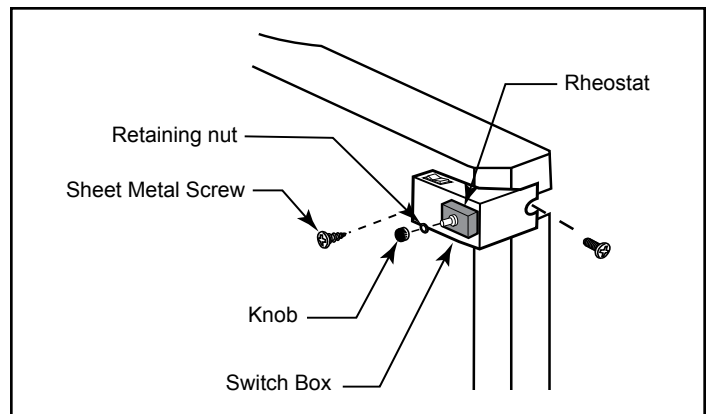
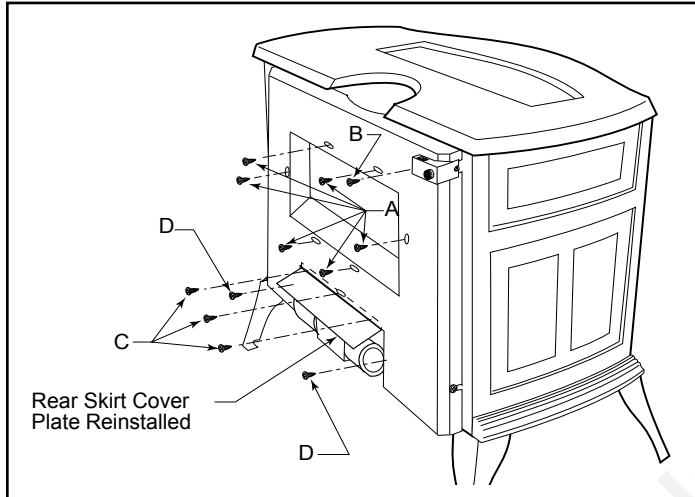

Figure 16 - Attach rheostat retaining nut and knob. Attach switch box to rear skirt with sheet metal screw.
Figure 17 - Replace rear skirt, coverplate and switch box.
6. Bring the rheostat cord to the inside of the stove; pass the cord through the slot at the edge of the rear skirt, where the on/off switch passes through. Lift the rear skirt into rough position; make sure the fan and on/off switch wires are not trapped between the skirt and inner draft hood assembly. The on/off switch and fan rheostat should hang loosely outside the edge of the skirt. The edges of the rear skirt go outside the rear vertical edges of the stove sides. There is a rope gasket around the large opening in the rear skirt, make sure this stays in place. Install the six (6) sheet metal screws around the perimeter of the large opening in the rear skirt. ('A', Figure 17)
7. Tighten three (3) of the bolts holding the rear skirt to the stove body; leave the one at the switch box loose. Pop out the round chrome plug in the switch box. Remove the rheostat knob and collar from the rheostat assembly. Pass the rheostat stem through the hole in the switch box; align the locator pin with the smaller hole. Install the retaining nut from the outside of the housing, and snug it up against the switch box. Slide the rheostat knob onto the stem. (Figure 16)
8. Fasten the switch box to the rear skirt with a sheet metal screw as shown in Figure 16. Tighten the Phillips bolt holding the switch box to the rear skirt and the stove.
9. Replace the rear skirt cover plate with three (3) sheet metal screws as shown at "C", Figure 16. The top edge of the cover plate goes inside the rear skirt. Replace a sheet metal screw at each side of the fan assembly, holding the rear skirt to the inner fan shield. ('D', Figure 17)